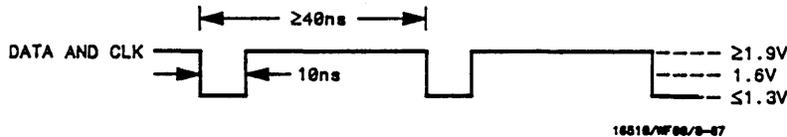

Figure 3-9. Waveform for Clock, Qualifier, and Data Inputs Test 2
- Adjust pulse generator for output in figure 3-9.